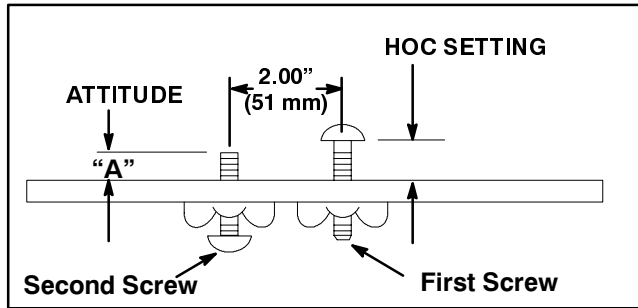

Figure 7
For setting consistent cutting unit attitude, Toro strongly recommends using a two-screw gauge bar, Toro part no. 98-1852 (Fig. 7). The first screw is set for height-of-cut, and the second screw is set for cutting unit attitude. The second screw setting is an easy method of transferring cutting unit attitude to all cutting units on a machine.
1. Using a two-screw gauge bar, Toro Part No. 98-1852, set first screw to desired height-of-cut. This setting is from the bar face to the underside of the screw head (Fig. 7).
2. Using Table 1, set the attitude, "A," for the second screw on the gauge bar. This setting is from the bar face to the end of the screw (Fig. 7).